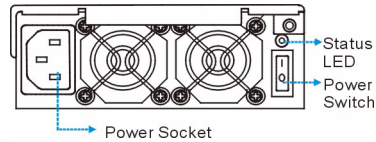
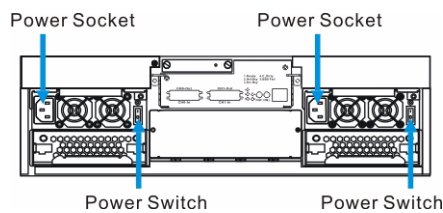

Figure 7.1 Controller Module DVA-08E
Figure 7.2 Controller Module DVA-08K / DVA-16K
1. Connect the provided power cables to the power sockets on the back of the system (see *Figure 7.1* and *Figure 7.2*). For DVA-08E one (1) power cable is needed and for DVA-08K and DVA-16 K two (2) power cables are needed.
4. Power on the subsystem by turning on both power switches on the rear panel of power supply unit modules. For the location of the power switches, please see *Figure 7.1* and *Figure 7.2*.